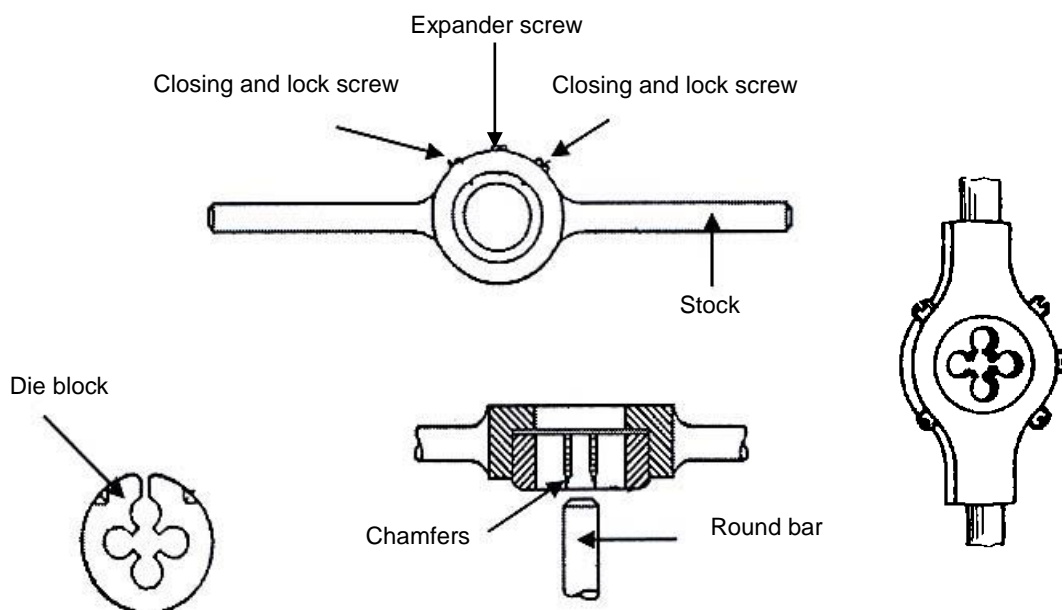

FIG 1.
- B. Fit the round split die in the stock. The split must be positioned to line up with the screw in the centre. (Fig 1)